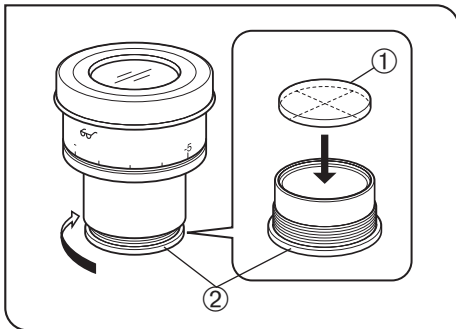

Fig. 26
### 3 Mounting the Eyepiece Micrometer Disk (Fig. 26)
Following Fig. 26, turn the built-in micrometer-mounting frame ② to the arrow direction to remove it from the eyepiece and place a micrometer disk ① into the mounting frame so that the surface with the model indication faces downward.